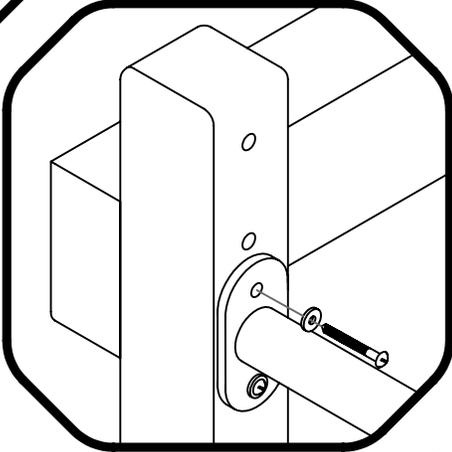

Fig. 1
****NOTE**** Assemblies must be level and measure 49" outside to outside at the top of items F. Place Rail Bars 6" down (from top of 'F' to top hole on rail) on items F and centered on items 'F' (as shown in fig. 1 & 2) and attach with 2 1/2" tapping screws.